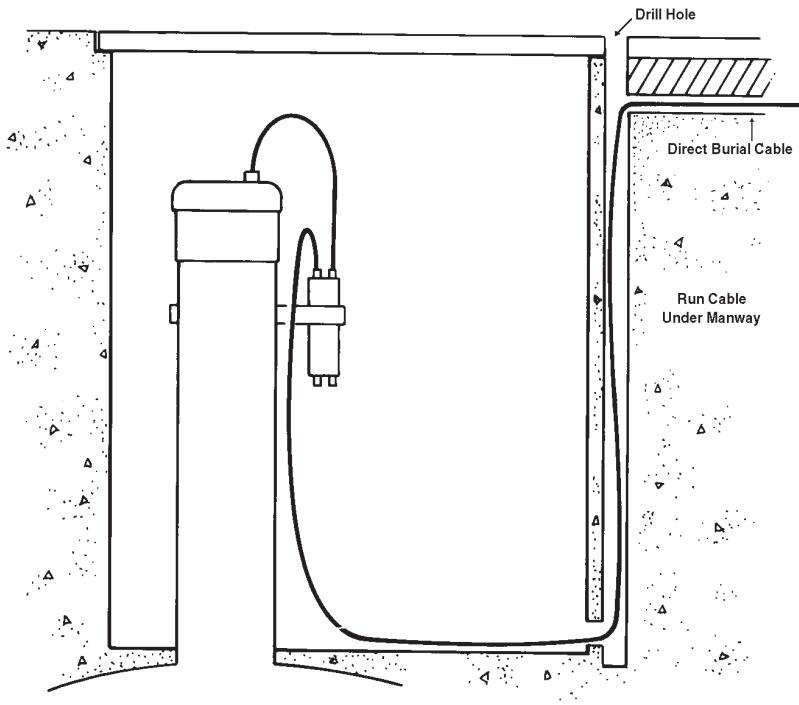

Figure 5. Direct Burial without a Sump
9. If a sump is not used, see Figure 5.